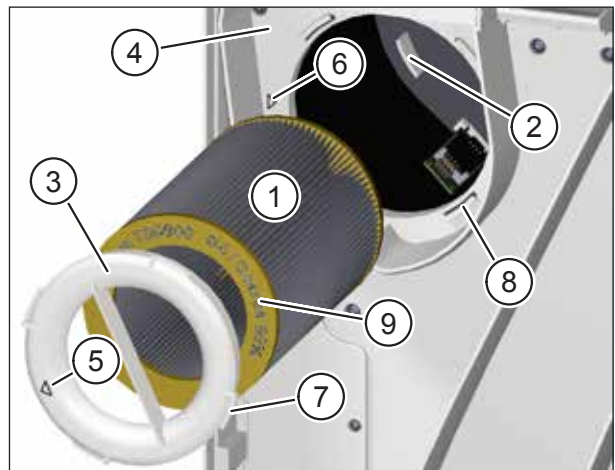

Fig. 17: Inserting the new extract air filter
- ▶ Carefully guide the new extract air filter (item 1 in Fig. 17) into the ventilation unit.
- ▶ Make sure that the air filter slides into the 3 retaining tabs (item 2 in Fig. 17) on the back wall of the ventilation unit.
- ▶ Place the filter ring (item 3 in Fig. 17) on the extract air filter. Make sure that the filter ring lies flat on the intermediate plate (item 4 in Fig. 17).
- ▶ Turn the filter ring clockwise until the arrow on the filter ring (item 5 in Fig. 17) lines up with the arrow for the locking position (item 6 in Fig. 17). Make sure that the 4 tabs (item 7 in Fig. 17) on the filter ring engage in the retainers (item 8 in Fig. 17) on the intermediate plate.
- Only M-WRG-II FS, part no. 750000, may be used as the extract air filter. The part no. and air filter class are imprinted on the yellow end plate of the air filter (item 9 in Fig. 17).